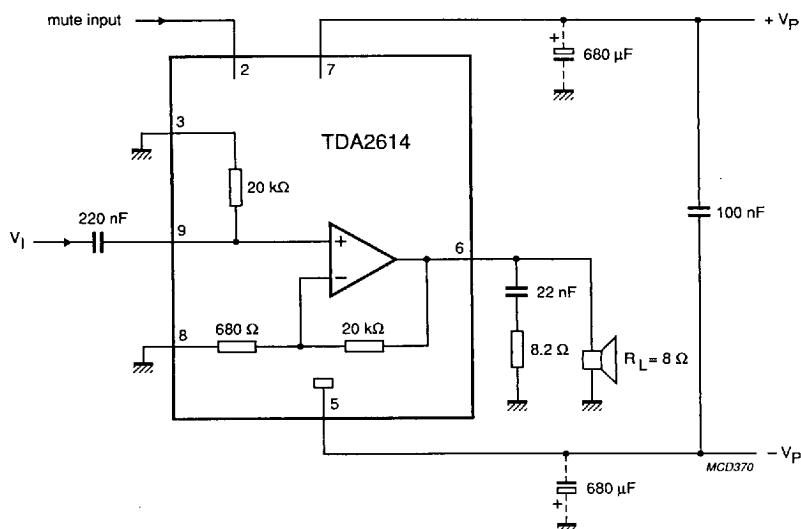

Fig.4 Test and application circuit with symmetrical power supply.
6. $\pm V_p = 12 \text{ V}$; $R_L = 8 \Omega$; $T_{amb} = 25^\circ\text{C}$; $f = 1 \text{ kHz}$; symmetrical power supply $I_{MUTE} < 30 \mu\text{A}$. See Fig.4